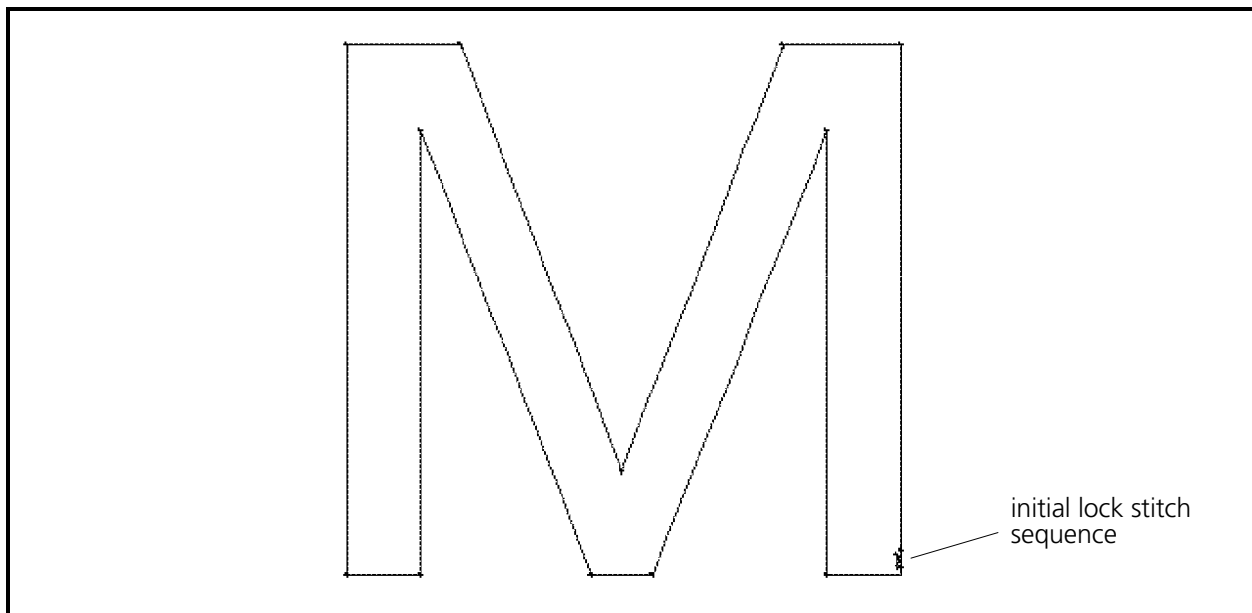

Figure 6-28
Lock stitches are used to keep the beginning or end of a digitized section from coming unraveled between color changes or with trims, and before and after a needle up. Generate lock stitches using 3 or 4 Mk1s in a back and forth zig zag motion. In our example put the lock stitch on the outside edge of the letter **M** just up from the Mk1 establishing the start point. See the Figure 6-28 for an indication of where you will be generating the lock stitches in the following steps.
- We will begin the outline from the last Mk1 of the initial lock stitch sequence which you entered at the bottom right corner of the right leg of the letter **M** (see Figure 6-28).